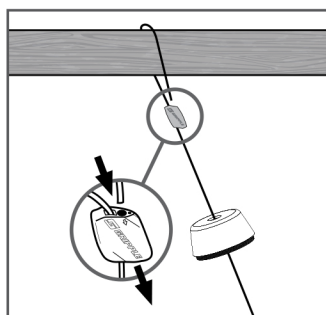

FIGURE 6: THREAD CABLE AGAIN
3. Pass tail end of cable through the other channel of the Gripper. (See figure 6).